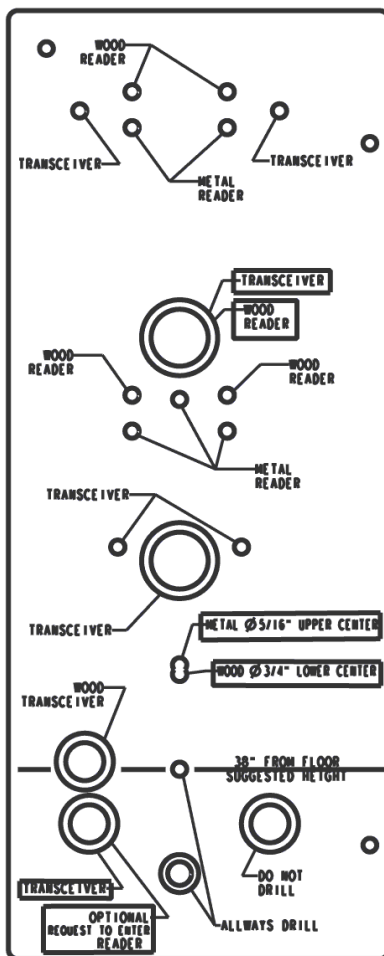
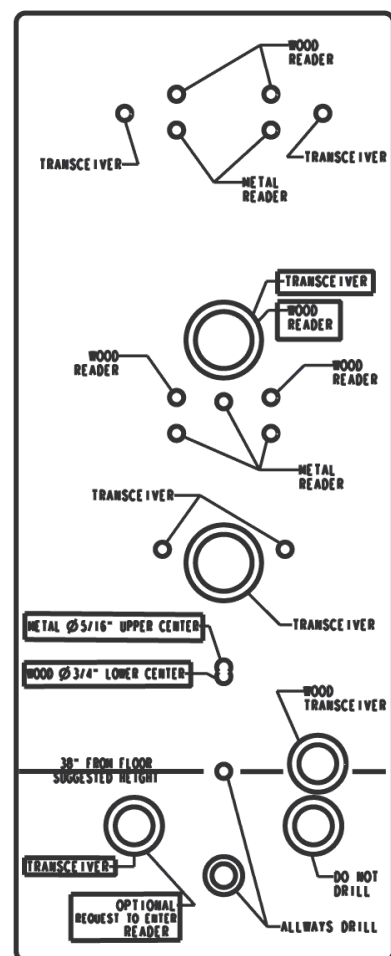

Figure 2-5 – Left View
Figure 2-7 – Right View
- 2.5.1.1.6 Clamp the Jig to the Reader side of the door making certain that edge of the jig is tight to the door edge and that the 38" line on the Jig (Figure 2-5 or Figure 2-7) lines up with the line drawn in section 2.5.1.1.1 above.
- 2.5.1.1.7 If the door is WOOD, drill bearing holes and mark non-bearing holes that are labeled WOOD READER, WOOD LOWER CENTER, and ALWAYS DRILL (Figure 2-5 or Figure 2-7).
- 2.5.1.1.8 If the door is METAL, drill bearing holes and mark non-bearing holes that are labeled METAL READER, METAL UPPER CENTER, and ALWAYS DRILL (Figure 2-5 or Figure 2-7).
- 2.5.1.1.11 Clamp the Jig to the Transceiver side of the door making certain that edge of the jig is tight to the door edge and that the 38" line on the Jig (Figure 2-5 or Figure 2-7) lines up with the line drawn in section 2.5.1.1.1 above.
- 2.5.1.1.12 If the door is WOOD, drill bearing holes and mark non-bearing holes that are labeled TRANSCEIVER, WOOD LOWER CENTER, WOOD TRANSCEIVER, and ALWAYS DRILL (Figure 2-5 or Figure 2-7).
- 2.5.1.1.13 If the door is METAL, drill bearing holes and mark non-bearing holes that are labeled TRANSCEIVER, METAL UPPER CENTER, and ALWAYS DRILL (Figure 2-5 or Figure 2-7).